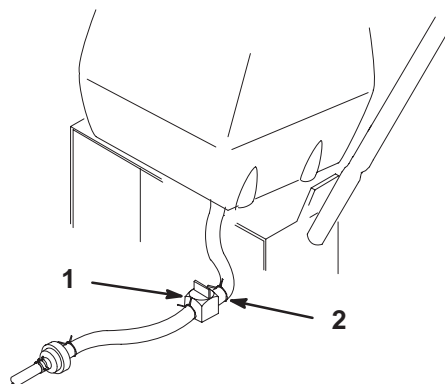

Figure 40
2. Close fuel shut-off valve at fuel tank (Fig. 40).
3. Squeeze the ends of the hose clamp together and slide it up the fuel line away from valve (Fig. 40).
4. Pull the fuel line off the valve (Fig. 40). Open fuel shut-off valve and allow gasoline to drain into a gas can or drain pan.
6. Open fuel shut-off valve at fuel tank (Fig. 40).
7. Check for fuel leaks and repair if needed (Fig. 40).